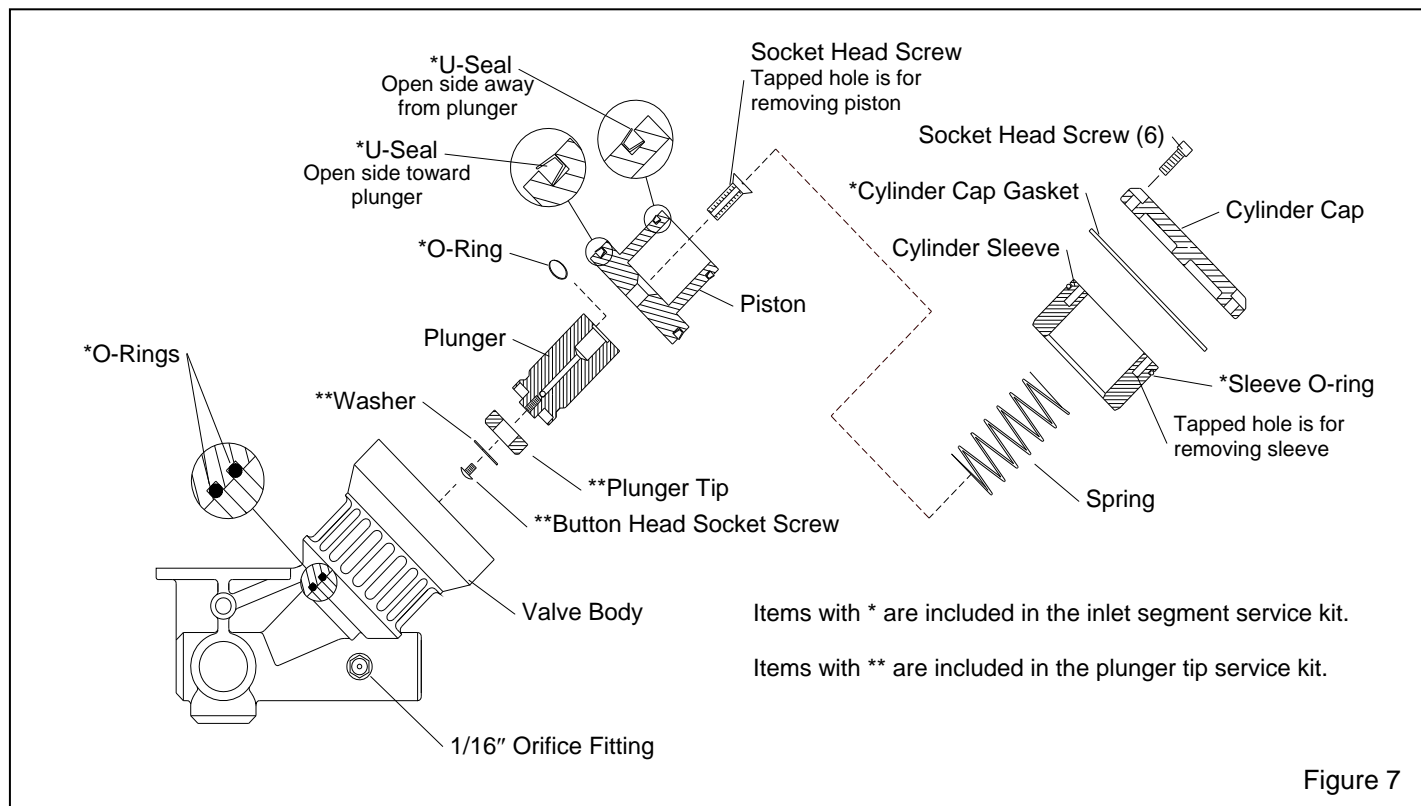

Figure 7
**6.3 Millennium Valve Inlet Segment, Ref. Figure 7.**
**6.3.10** Place the u-seals into the grooves on the piston, the open side of the large seal faces the plunger, and the open side of the small one faces away from the plunger, as shown in Figure 7.
**6.3.15** If fittings on the body were removed, make sure the 1/16" orifice fitting is threaded into the port as shown in Figure 7.